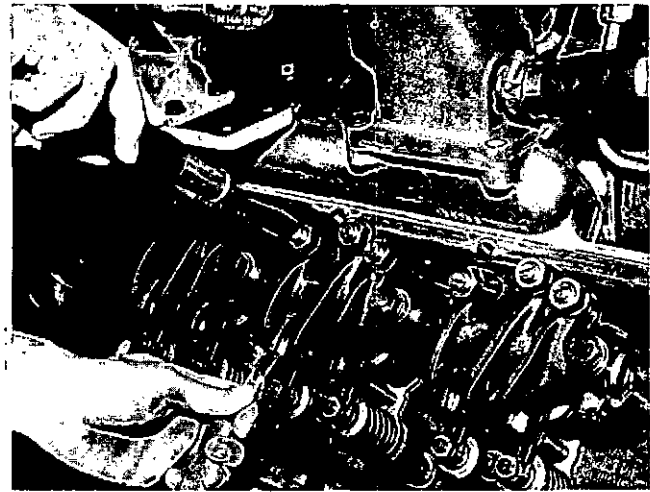

Fig. 5-32, V11916. Adjusting valves
1. Loosen locknut and back off adjusting screw. Insert feeler gauge between rocker lever and top of crosshead. Valve clearances are shown in Table 5-8. Turn screw down until lever just touches gauge and lock adjusting screw in this position with locknut. Fig. 5-32. Torque locknut to values indicated in Table 5-7; note Step 3 under "Injector Plunger Adjustment".